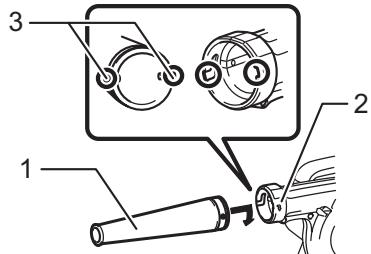

Fig.3
- Fig.3: 1. Nozzle 2. Blower outlet 3. Pin